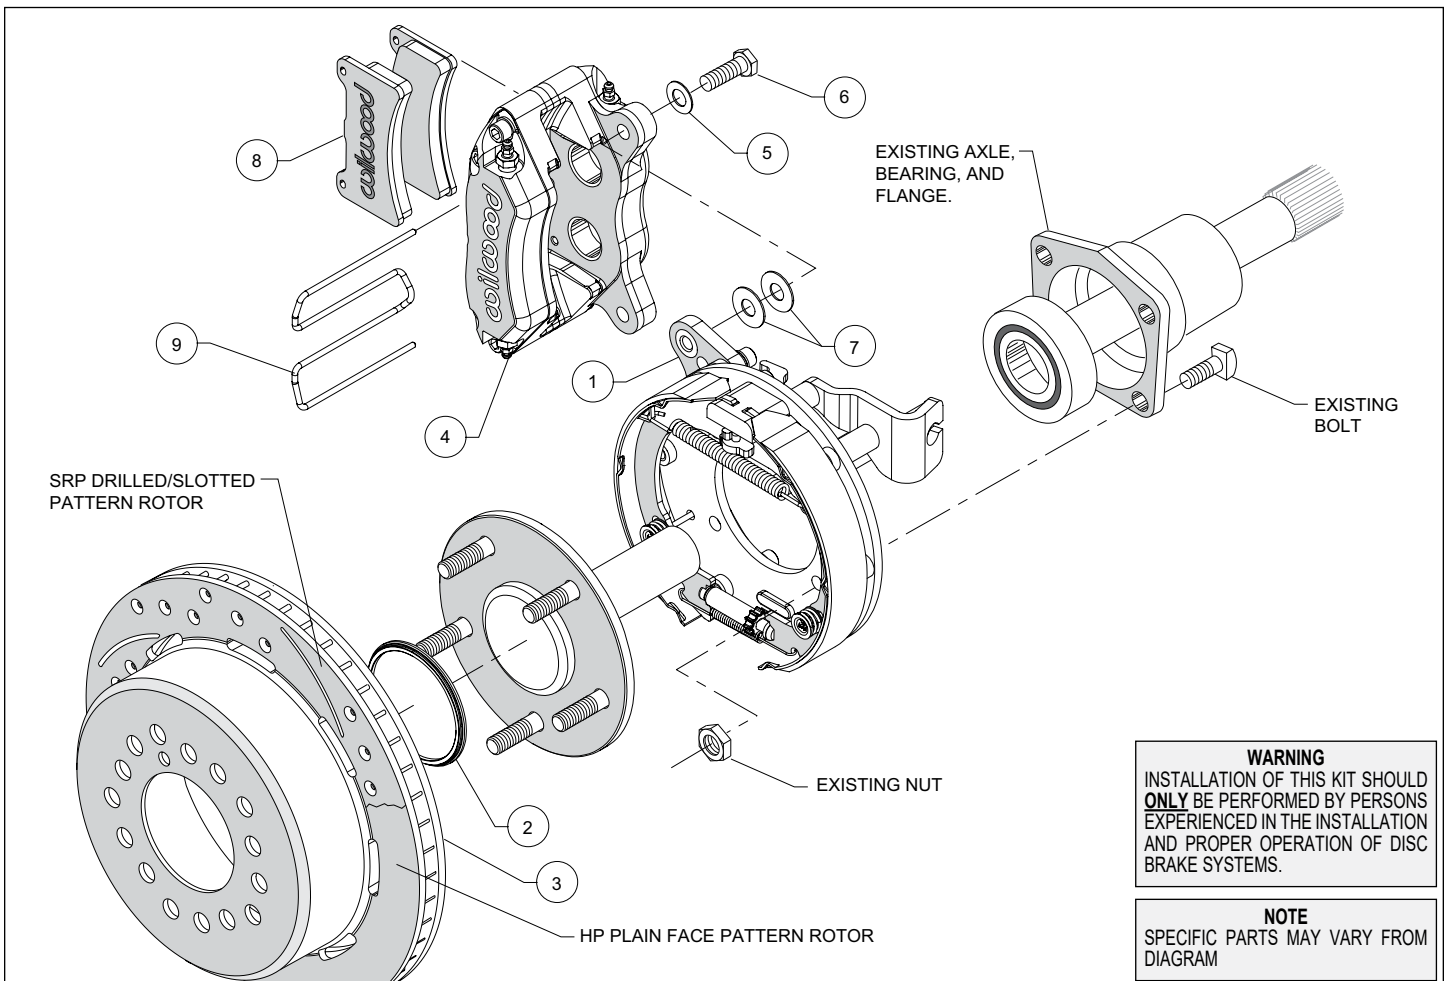

Figure 1. Typical Installation Configuration
**NOTE:** Numbers in parenthesis refer to the parts list and Figure 1 on the preceding pages.
- Orient the bracket assembly (1), as shown in Figure 1, and mount to the axle housing flange using the Original Equipment Manufacturer (OEM) bolts and nuts, Figure 1. Ensure that the bracket assembly backing plate fits flush against the axle housing flange. Apply red *Loctite*® 271 to the OEM bolt threads and torque to OEM specifications.
- Slide the rotor registration adapter (2) onto the axle register on the axle flange with the smaller O.D. facing toward the rotor/hat (3), Photo 1. Align the correct hole pattern in the rotor/hat with the stud pattern on the axle flange and slide into place, Figure 1 and Photo 2. **NOTE:** The rotor/hat must fit flush against the axle flange or excessive rotor run out may result. Install three lug nuts (finger tight) to keep the rotor/hat assembly in place while continuing with the installation. **NOTE:** Some OEM and after market axles come with stud sizes larger than 0.50" diameter. Verify stud size and have a qualified machine shop drill the bolt circle of the hat/rotor to the correct stud size, if necessary.
- NOTE:** Please reference the caution statement at the beginning of the assembly instructions. Mount the caliper (4) onto the caliper mounting bracket (1) using bolts (6) and washers (5), as shown in Figure 1. Initially place two .035" thick shims (7) on each bolt between the caliper and the bracket, Photo 3. Temporarily tighten the mounting bolts and view the rotor (3) through the top opening of the caliper. The rotor should be centered in the caliper, Photo 4. If not, adjust by adding or subtracting shims between the bracket and the caliper.